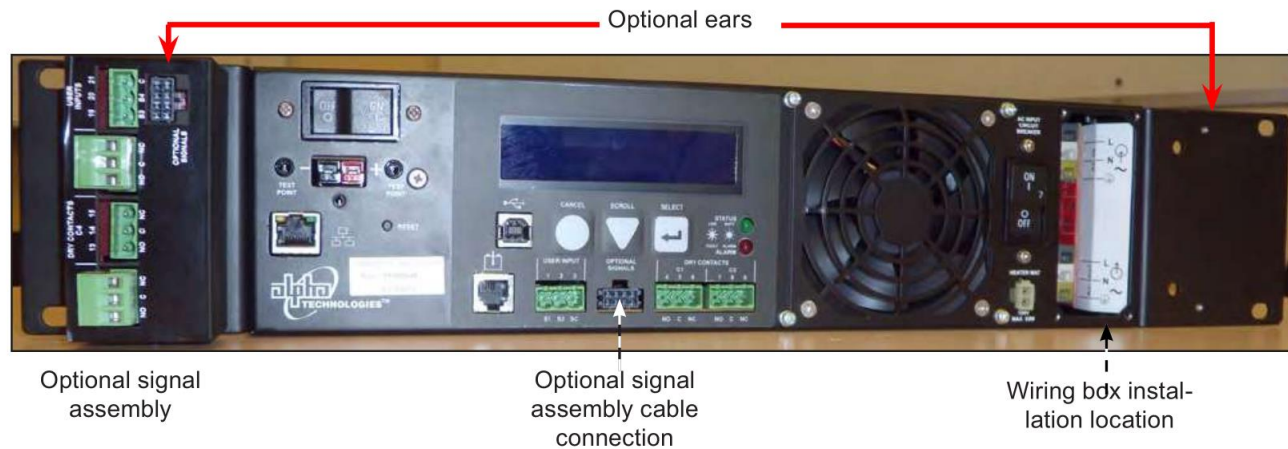

Figure 20 — FXM350 with rack-mount ears and signal assembly option (wiring box not shown)
- 19" or 23" rack mounted (with the addition of the optional ears shown in Figure 20). The signal assembly option provides additional user inputs and dry contacts.
2. Connect the signals connector cable from the signal assembly to the FXM Figure 20.